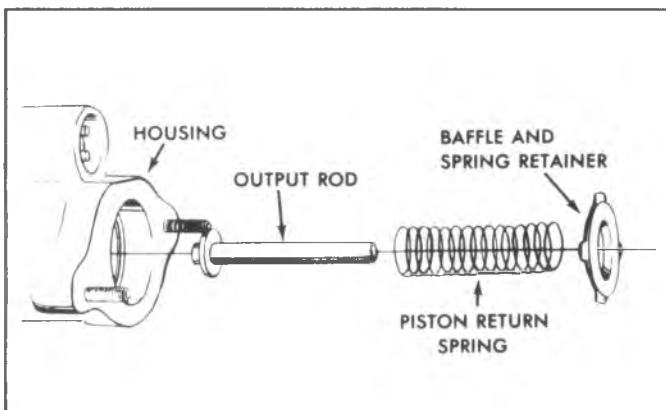

Fig. 5-3E--Output Rod, Spring and Retainer
- With a small screwdriver, pry the plastic guide out of the output push rod retainer. Disengage the tabs of the spring retainer from the ledge inside the opening near the master cylinder mounting flange of the booster. Remove the retainer, the piston return spring and output rod from the opening (fig. 5-3E).